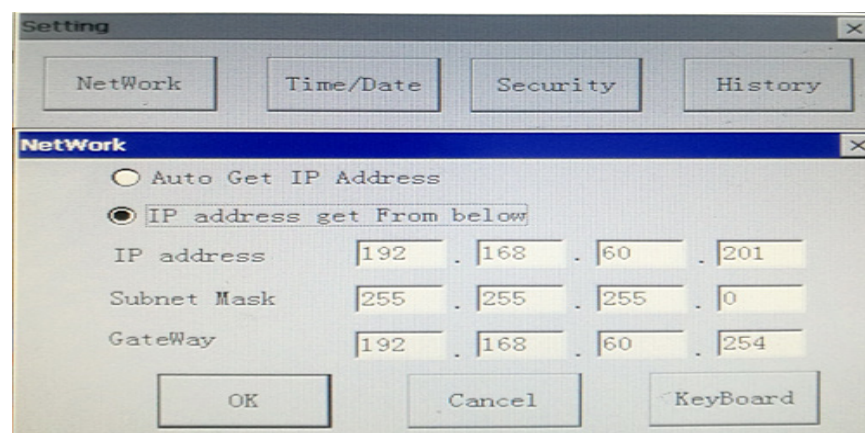

Figure 16 IP Address Setting (the IP address of HMI is 192.168.1.10).
» Click “NetWork” button to enter the dialog box for IP address setting, as shown in figure 16.
- » IP addresses of all HMI in system setting must be in the same network segment and without conflicts. Please refer to figure 16.